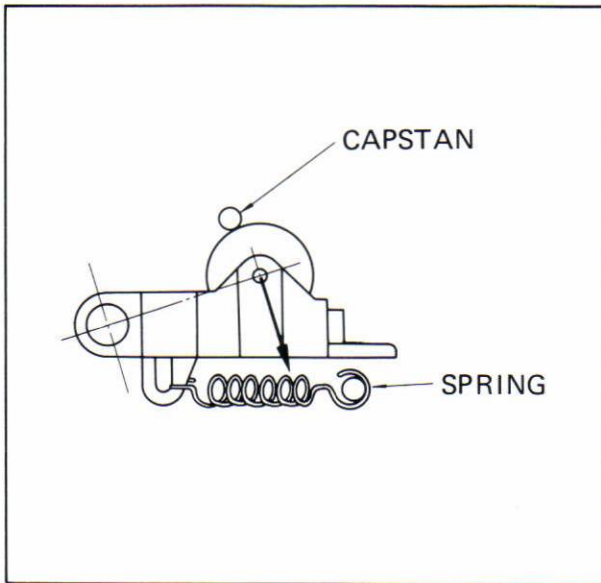

Figure 3
■ PINCH ROLLER PRESSURE (Refer to Figure 3)